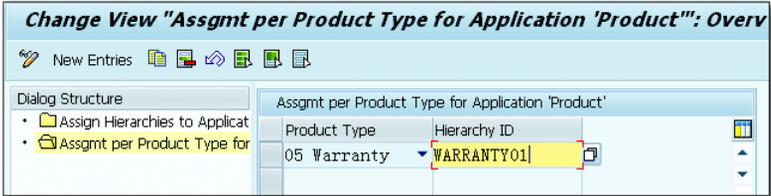

Figure 7.28 Product Type Assignment for Product Hierarchy
3. To assign the warranty hierarchy to the product type, follow the configuration path, SPRO • CROSS-APPLICATION COMPONENTS • SAP PRODUCT • PRODUCT CATEGORY • ASSIGN CATEGORY HIERARCHIES TO APPLICATIONS. Enter the fields as shown in Figure 7.28.